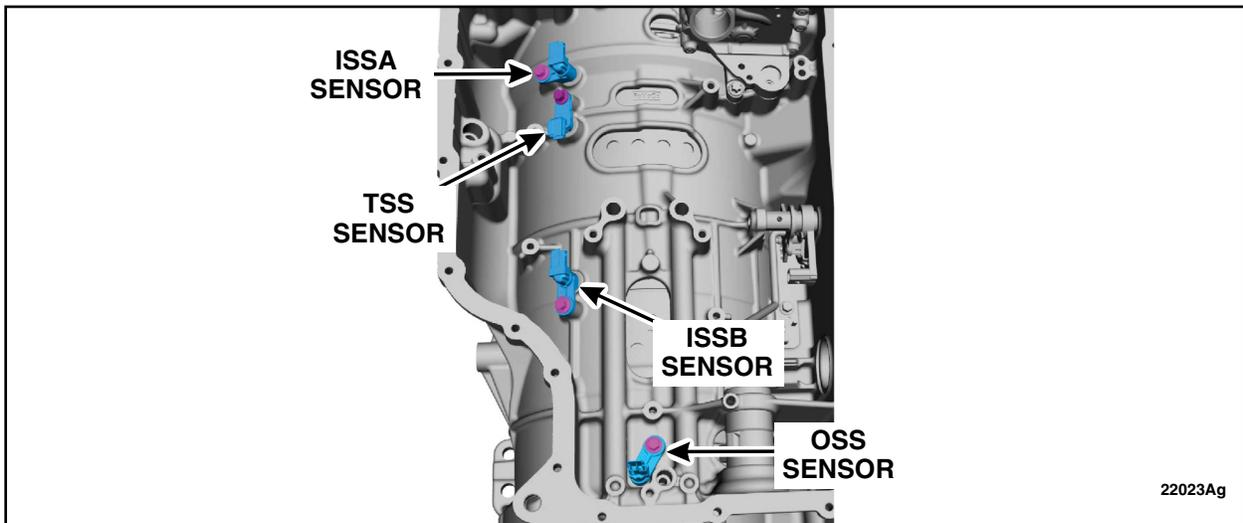

FIGURE 8
11. Remove the ISSA, TSS, ISSB, and OSS speed sensors. See Figure 8